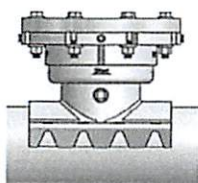

Figure 2
6. Mount the top half of the line stop fitting on the pipe in the position required for permanent installation (See Figure 2). Use a level to ensure the flange is level. Do not rotate the top half of the line stop fitting after it is positioned on the pipe.